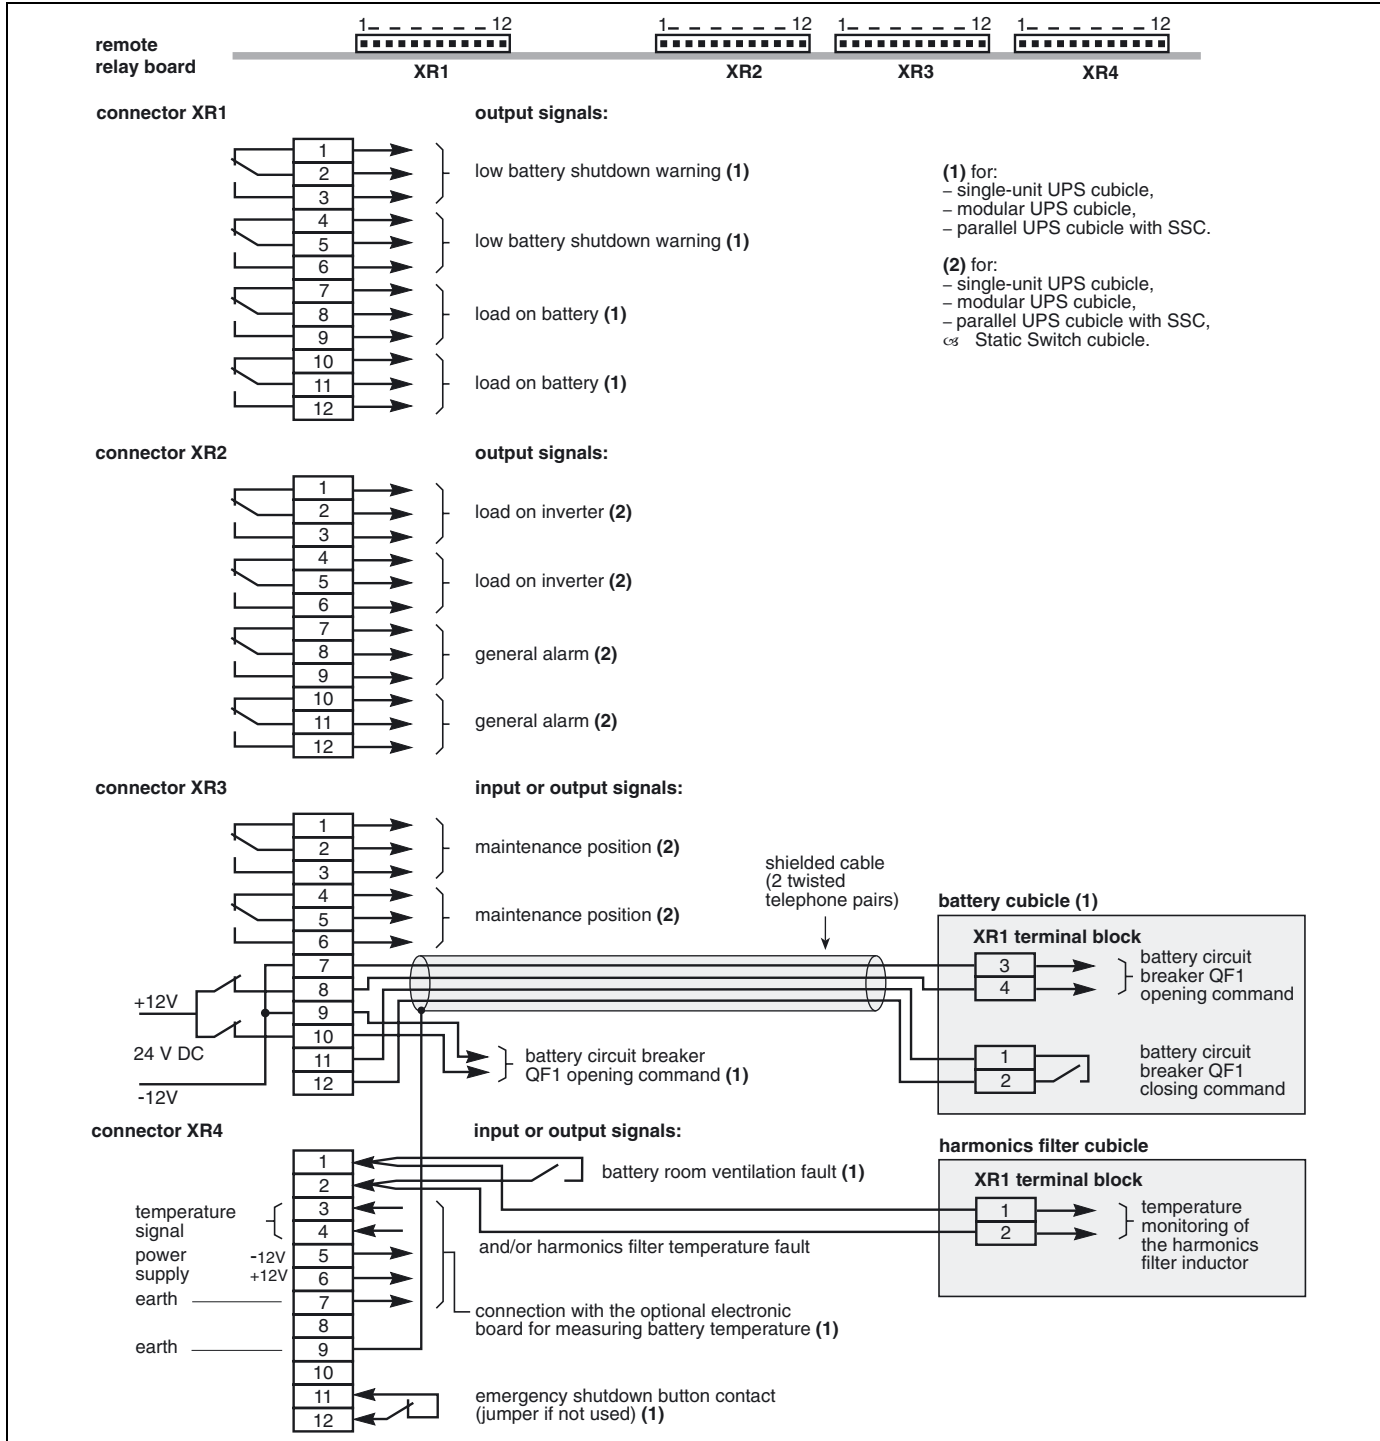

Fig. 16
2.8 Connection of "Media Contacts 9" standard auxiliary circuits (figure 16)